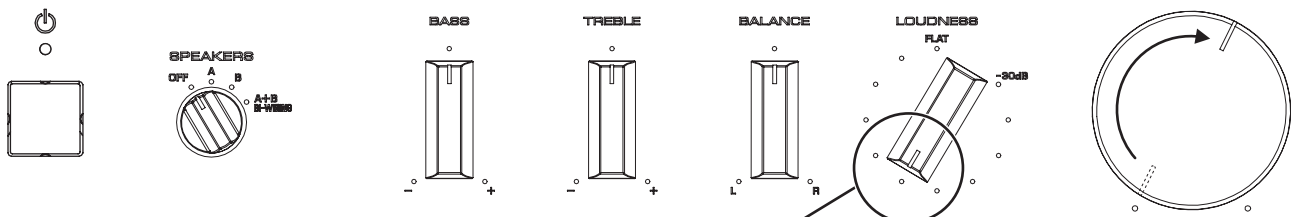

Fig. 7
- \* When the "BASS", "TREBLE" and "BALANCE" knobs are set to their top positions and the "LOUDNESS" knob is set to "FLAT", the most recent protection function (the same as that indicated by turning the "BASS" knob) is indicated by the "⏻" (power) indicator. However, the "VOLUME" knob will not move at this time. The "VOLUME" knob will move if a protection history is selected with one of the knobs. (Fig. 7)
- ※ "BASS"、"TREBLE"、"BALANCE" ツマミが中央の位置にあり、"LOUDNESS" ツマミが "FLAT" の位置にある場合も "BASS" ツマミを回した時と同じ最新のプロテクション種類がパワーインジケータで表示されます。ただし、この場合 "VOLUME" ツマミは動作しません。各ツマミで履歴を選択した時に "VOLUME" ツマミは動作します。(Fig. 7)